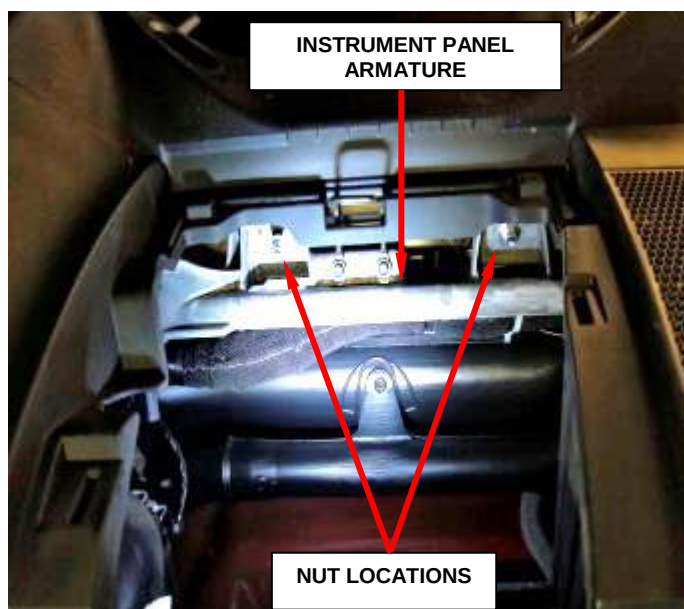

Figure 172 – PAB Lower Nuts
27. Reach up into the instrument panel glove box opening to access and remove and save the two nuts that secure the PAB lower studs to the instrument panel armature on each side of the glove box latch striker (Figure 172).